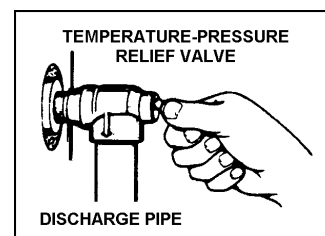

FIGURE 33.
When checking the temperature-pressure relief valve operation, make sure that (1) no one is in front of or around the outlet of the temperature-pressure relief valve discharge line, and (2) that the water discharge will not cause any property damage, as the water may be extremely hot, see Figure 33.